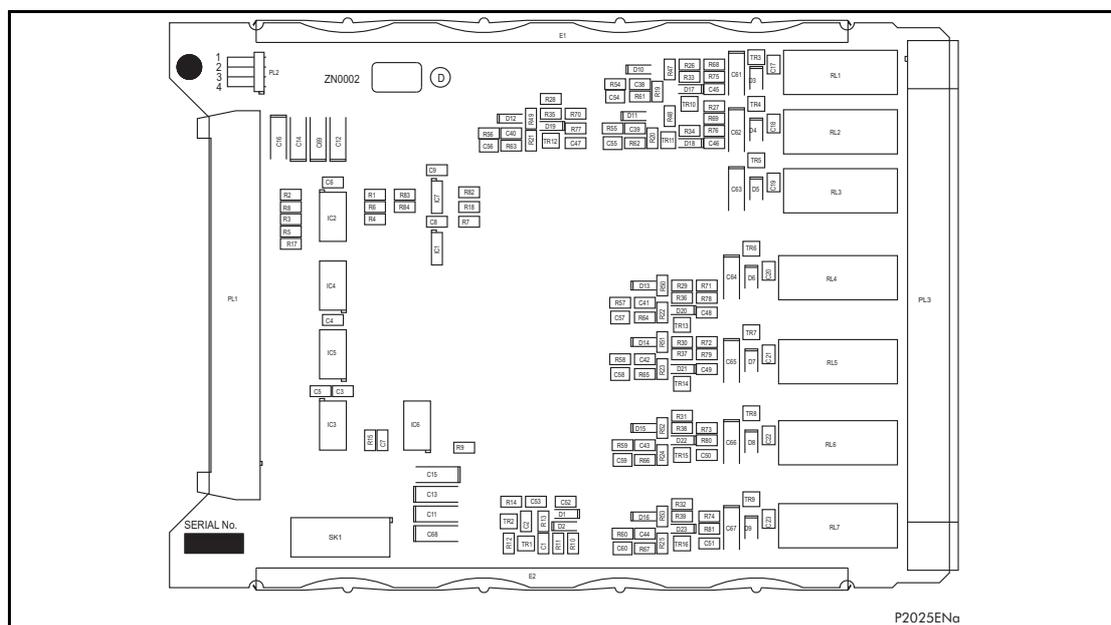
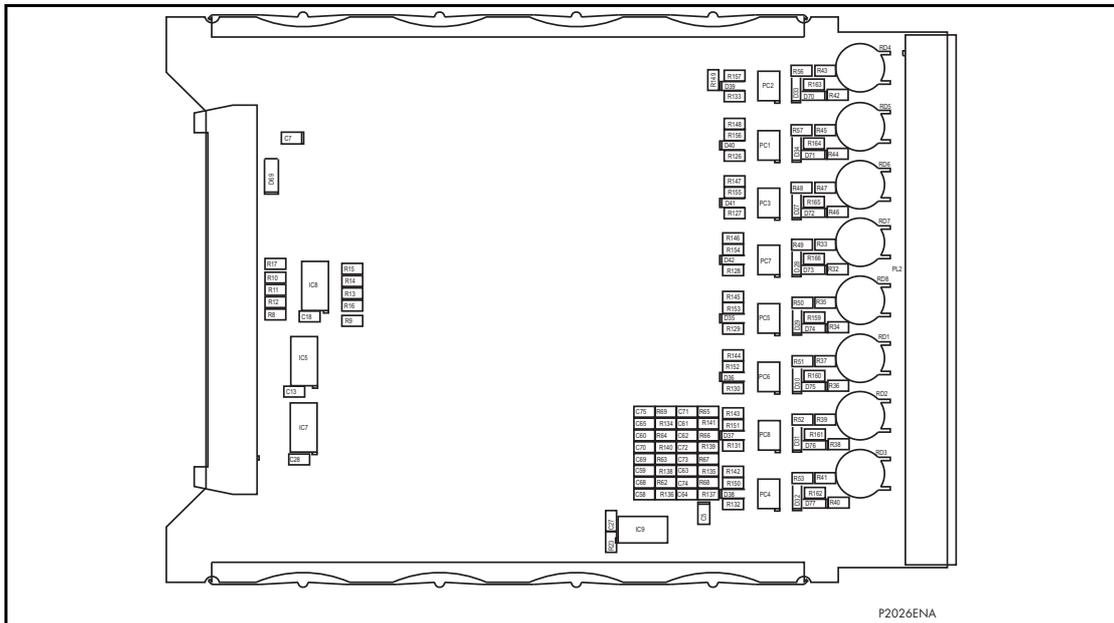

Figure 8: Typical relay board
Figure 9: Typical opto board
The relay board is the one with holes cut in it to allow the transformer and two large electrolytic capacitors of the power supply board to protrude through. To help identify the board see Figure 8.
2. If the relay board is being replaced, ensure the setting of the link (located above IDC connector) on the replacement relay board is the same as the one being replaced. To help identify the correct board has been removed; Figure 8 and Figure 9 illustrate the layout of the relay and opto boards respectively.